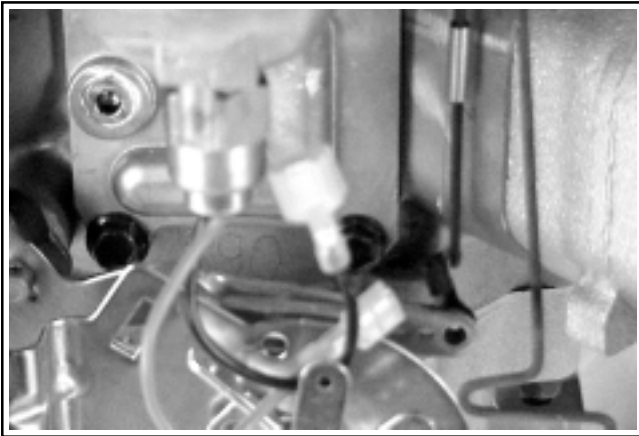

Figure 9-15. Removing Throttle Linkage, Dampening Spring, and Black Bushing.
2. Disconnect the dampening spring and throttle linkage from the governor arm. Remove the black bushing, and clip it back onto the linkage, so it does not get lost. See Figure 9-15.